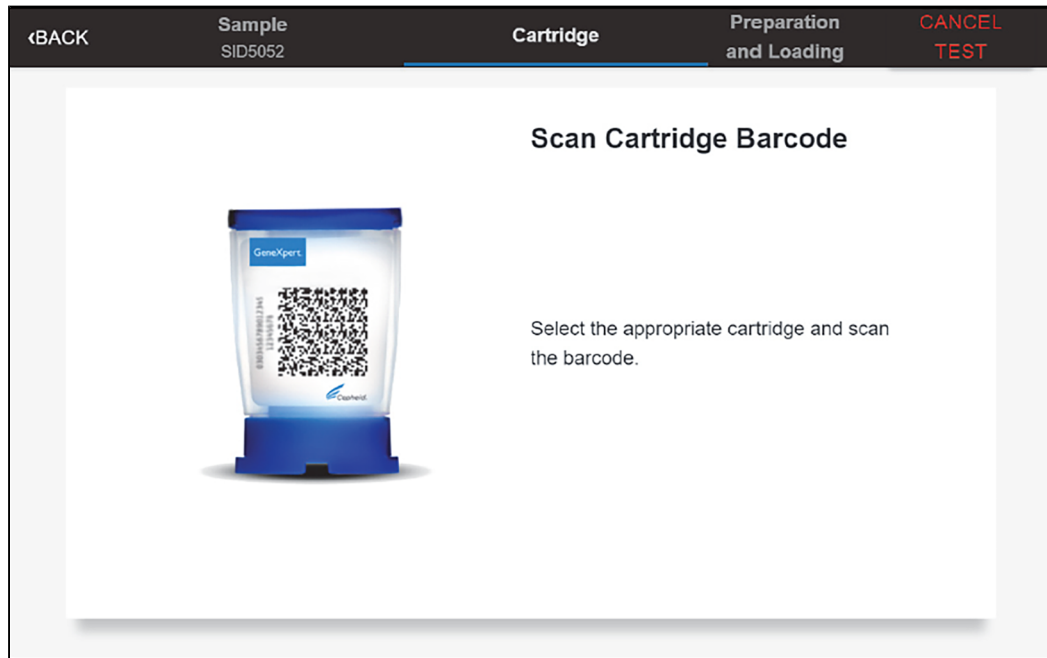

Figure 24. Scan Cartridge Barcode Screen
6. Verify the Sample ID and touch CONFIRM. The Scan Cartridge Barcode screen appears (see Figure 24).